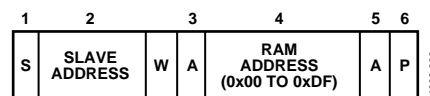

Figure 42. Setting a RAM Address for Subsequent Read
- To write a register address to RAM for a subsequent single byte read from the same address, or for a block read or a block write starting at that address, as shown in Figure 42.